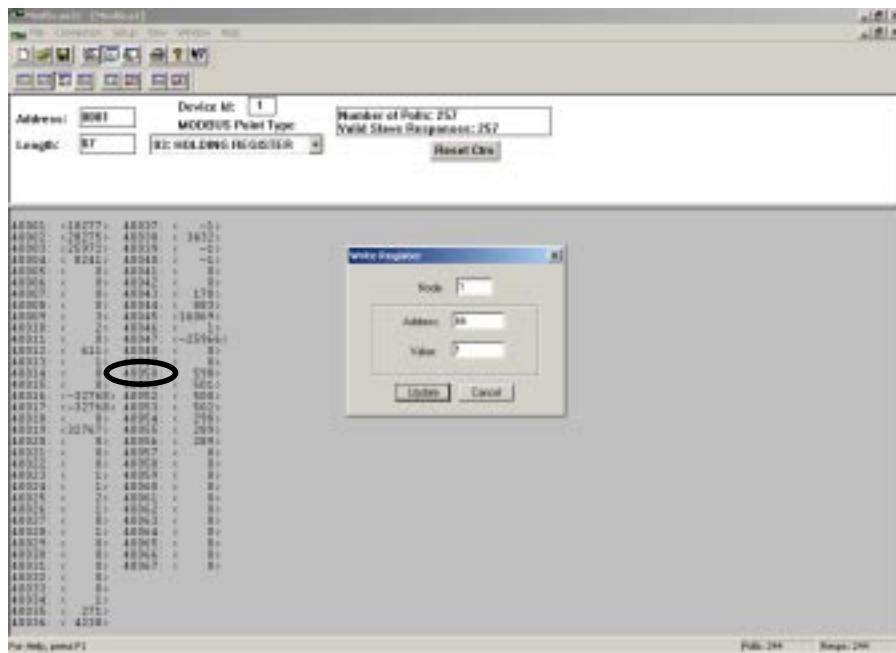

FIGURE 15. WRITE COIL DIALOG BOX
- On the main ModScan menu (see Figure 15), change the Length to 49.